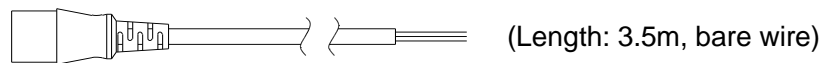

Fig. 7-8 AC Power Cord for 200V
6. When using 200VAC power supply, use optional AC power cord 200V (Fig. 7-8: 0311-5112).